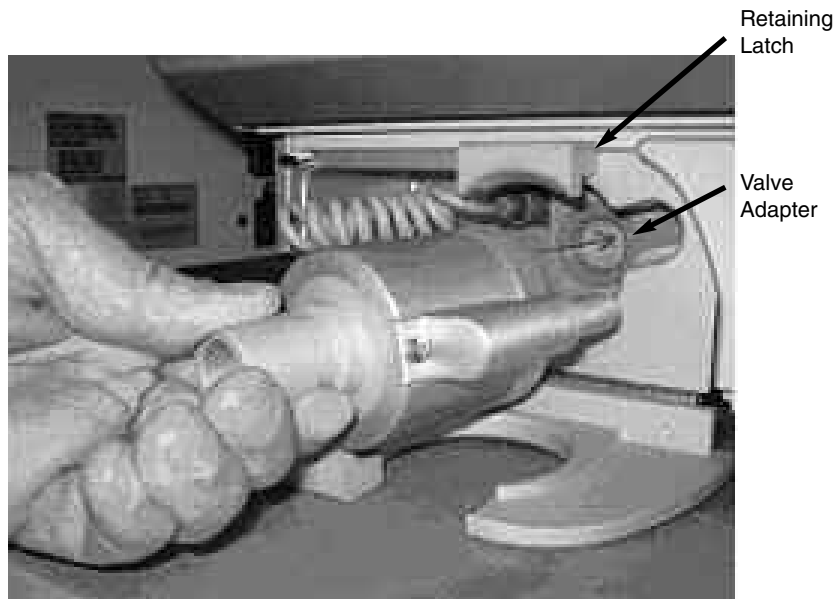

Figure 2-2 Exhalation Valve Adapter Replacement
- 1 Access the Exhalation Valve Adapter by lifting the Retaining Latch and removing the Exhalation Valve and Exhalation Flow Sensor, see Figure 2-2 above.